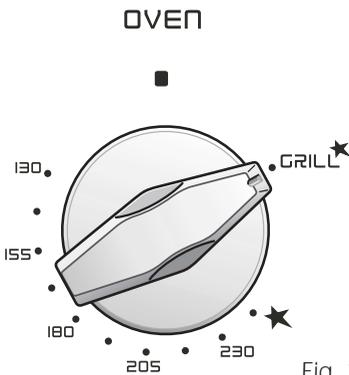

Fig. 19
2) Lightly press and turn the thermostat knob clockwise to the **GRILL** ★ position (fig. 19).